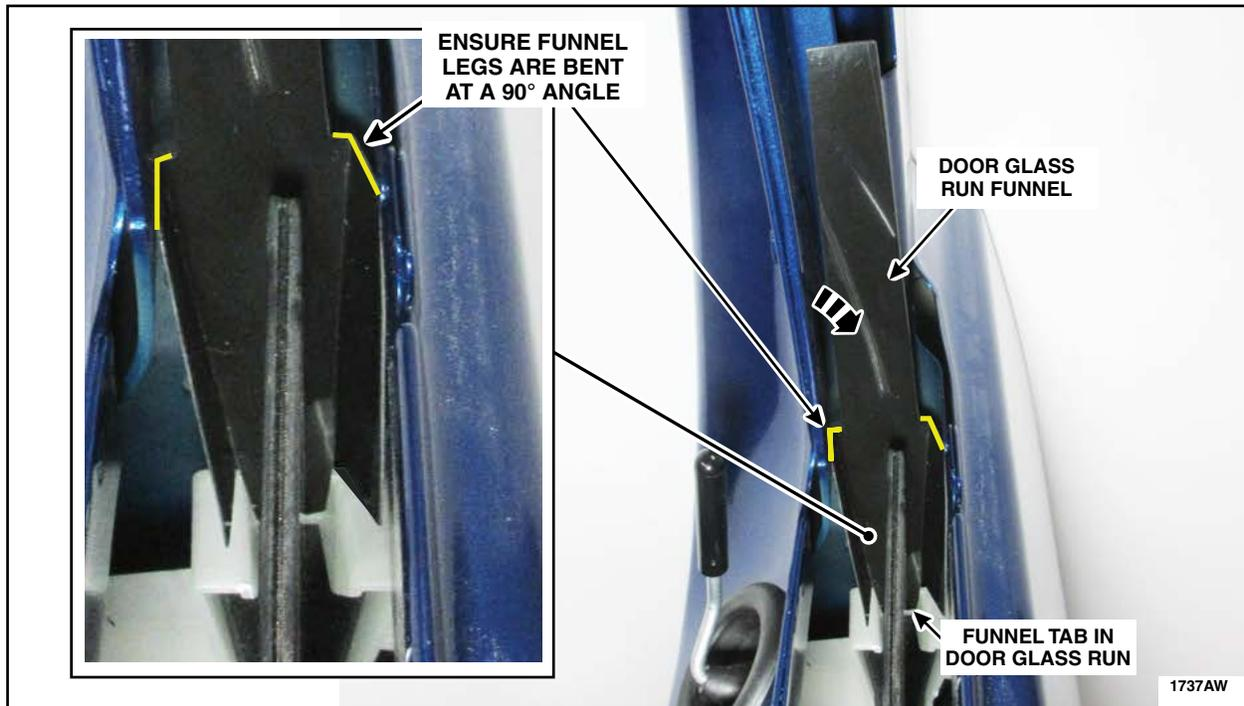

FIGURE 7
10. Install the appropriate length door glass run funnel (157mm funnel wings), ensuring that the lower tab is situated in the door glass run and the funnel wings sit at a 90° angle above the door glass run. See Figure 7.